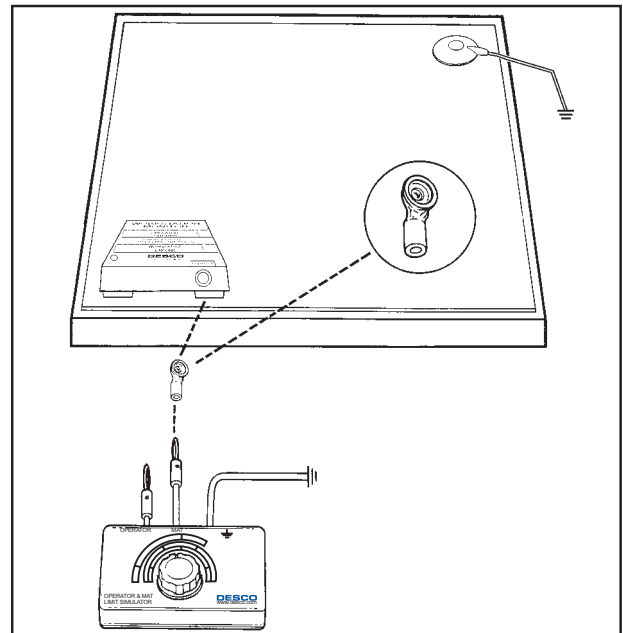

Figure 7. Testing 19212 work surface PASS AND FAIL.
**Step 2:** Connect the 09872 adapter to the banana plug marked "Mat" on the calibration unit. Disconnect the 19212 from the mat and re-install to calibration unit's adapter. See figure 7.